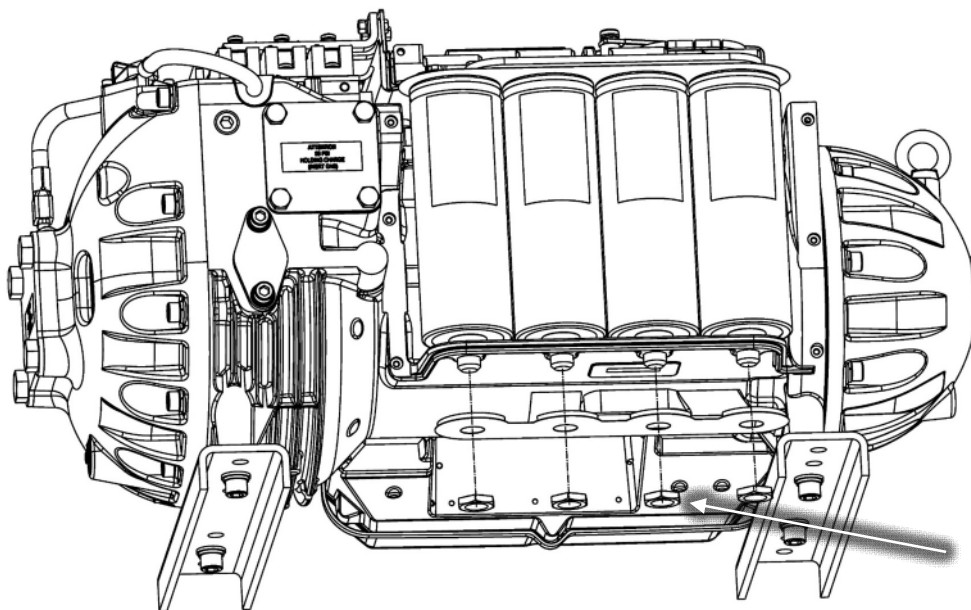

Figure 12 – Capacitor Nut Removal
22. Remove the nylon nuts at the base of the DC capacitor assembly, under the main compressor housing. Refer to Figure 12 (Capacitor Nut Removal).
22. Place the capacitor membrane foil side down, underneath the main compressor housing and then reinstall the nylon nuts to the base of the DC capacitor assembly, under the main compressor housing and torque to specification. Refer to Figure 12 (Capacitor Nut Removal).